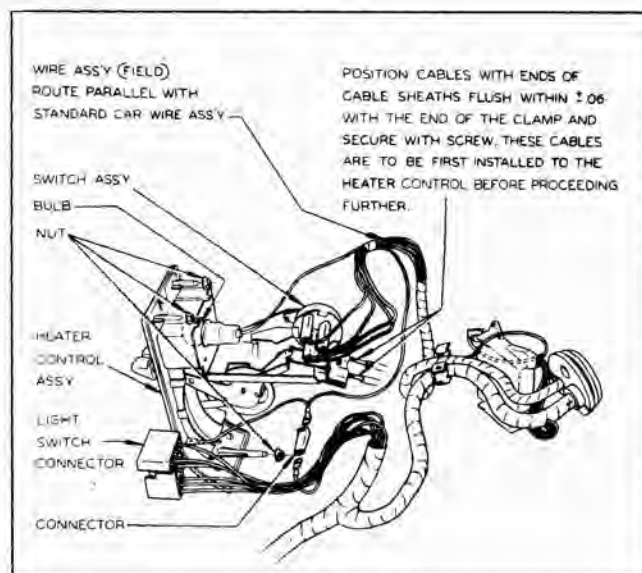

Fig. 2-13 Control Cable Connections at Control Panel
2. Check to see that temperature control valve cable housing extends no more than  $\frac{1}{16}$ " beyond cable housing clamp on control panel assembly (Fig. 2-13).